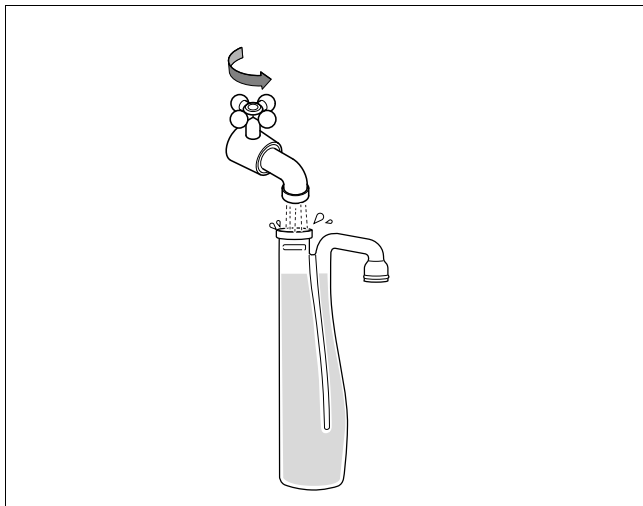

fig. 6 Filling the condensate trap with clean water
- Fill the condensate trap (supplied with the boiler) with clean water (fig. 6).